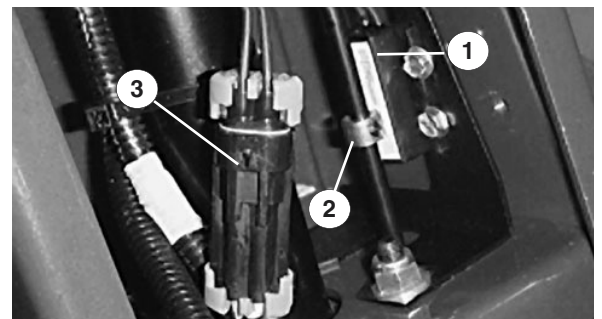

Figure 35
3. Disconnect the switch pigtail connector from the wire harness (Fig. 35).
5. Loosen the set screw securing the collar to the parking brake rod (Fig. 35).
6. Slowly move the collar on the rod until it is aligned with cross hairs on the switch label (Fig. 35). Tighten the collar set screw.